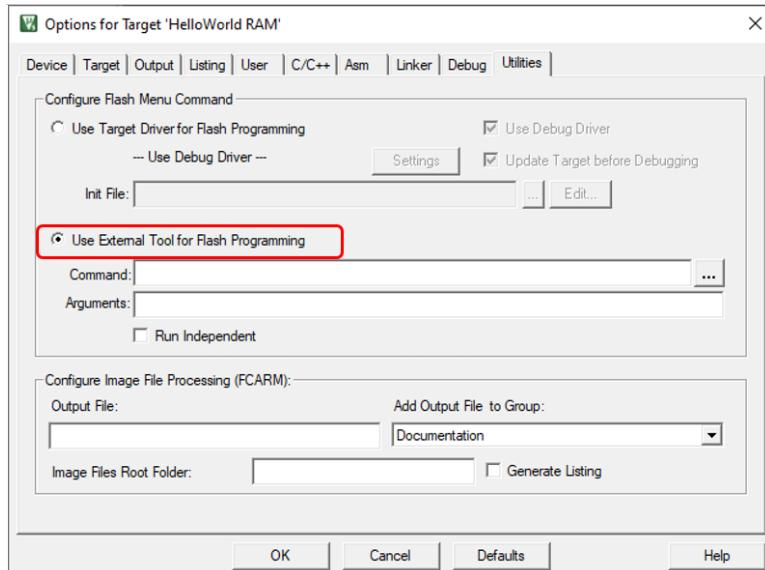

Figure 7.32: Keil IDE: Target Option Utilities Configuration for RAM Target.
7. Select the Utilities tab and select the radio button beside “Use External Tool for Flash Programming” (see Figure 7.32).